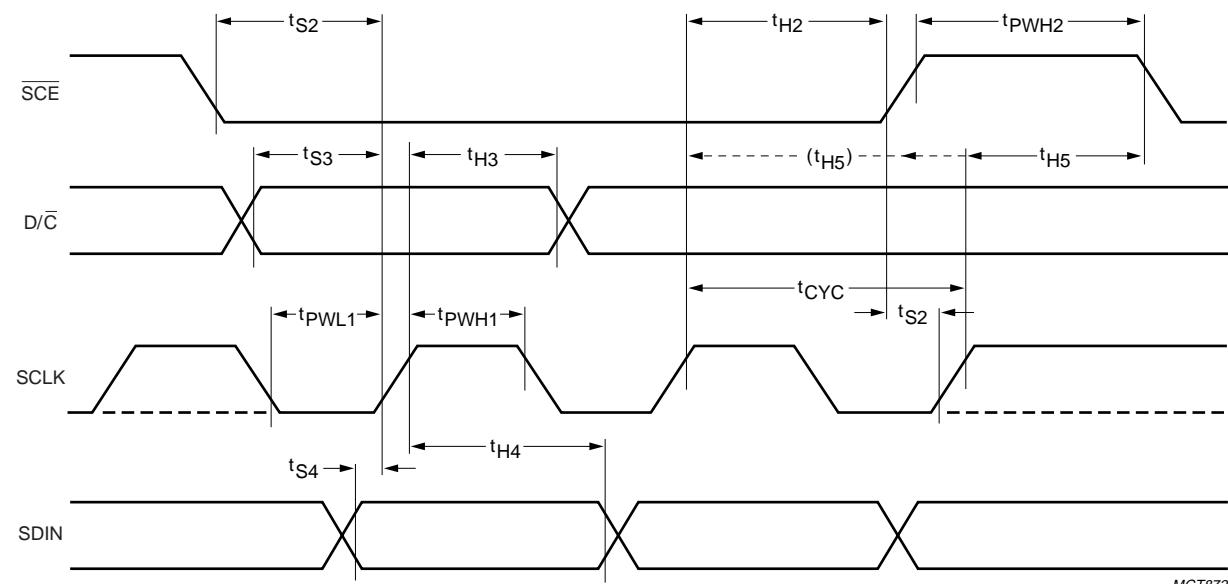

Fig.15 Serial interface timing.
**Serial bus timing characteristics; see Fig.15**